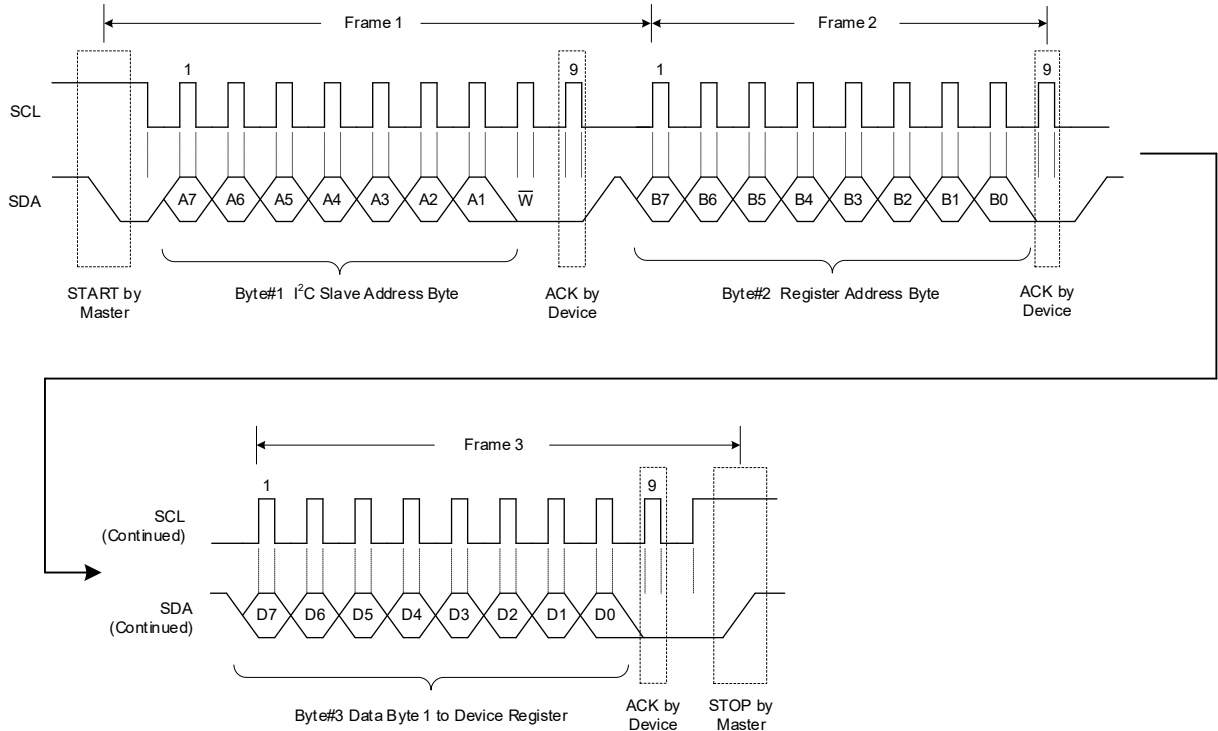
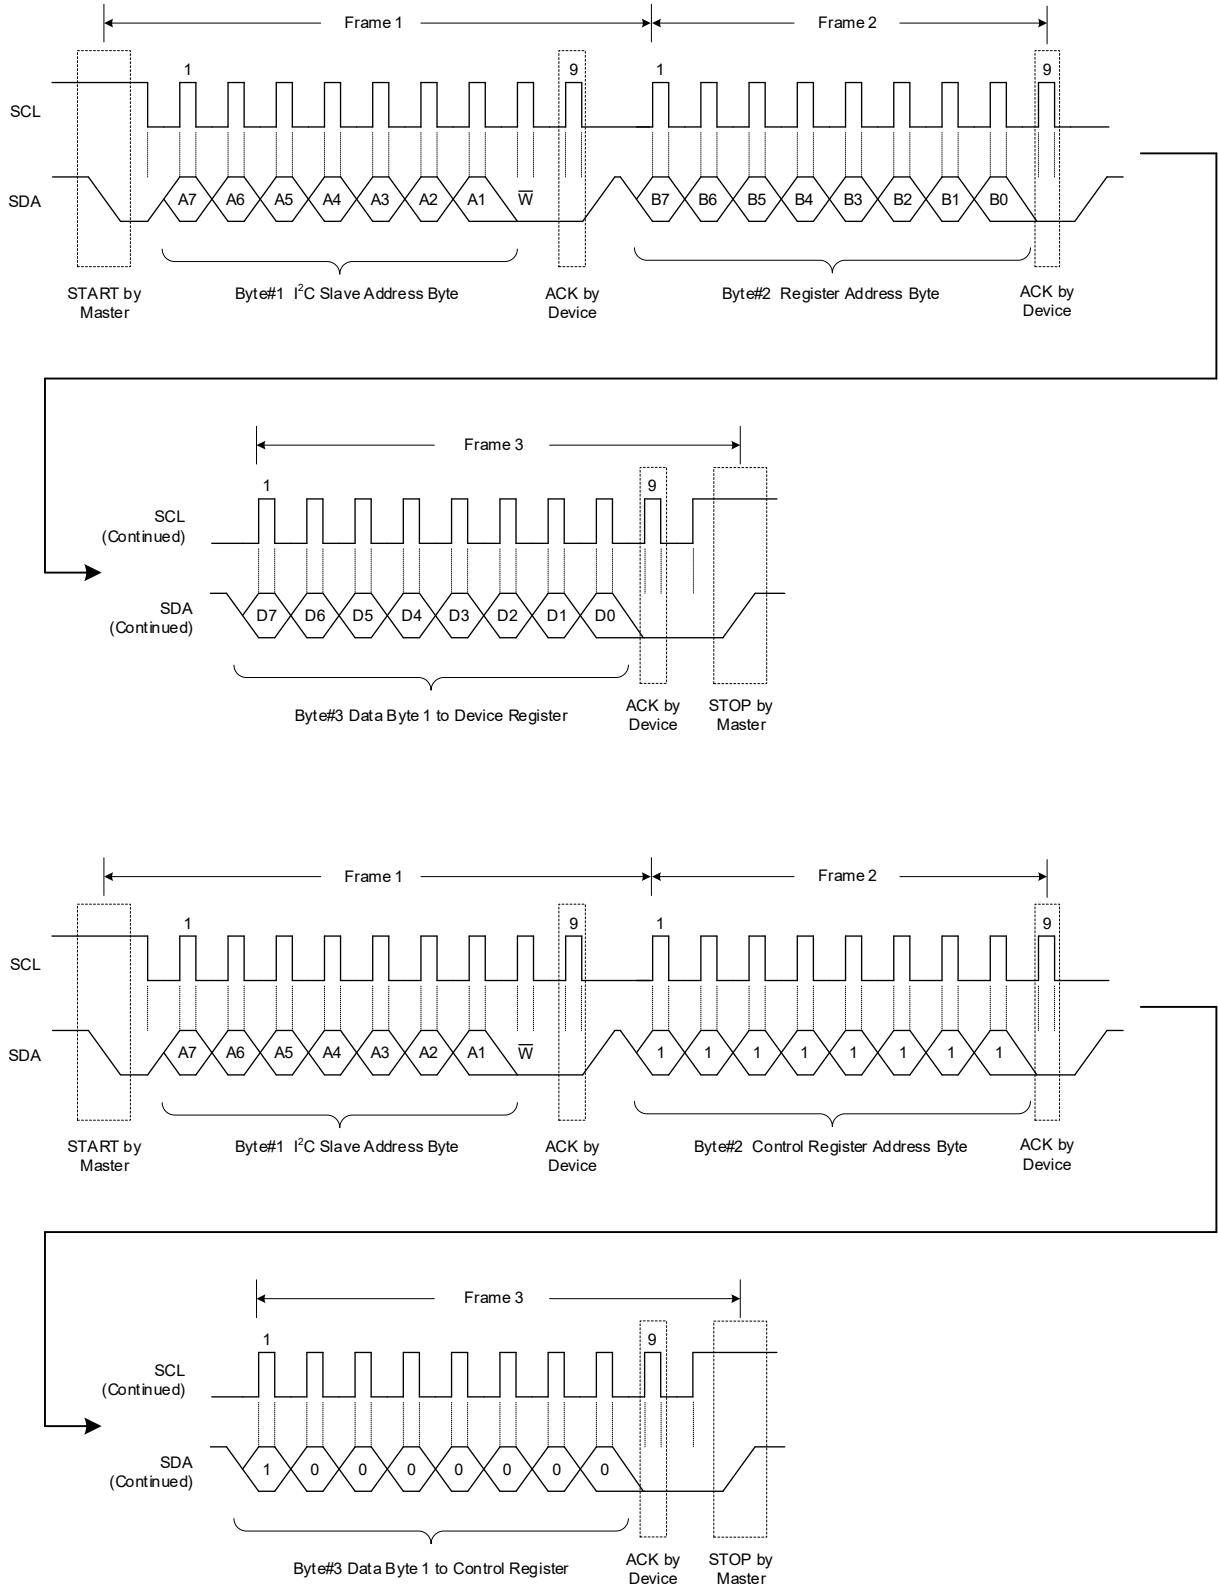

Figure 8. A Single Write Transaction (To DAC Register)
Figure 9. A Single Write Transaction (To MTP)
**WRITE:** If the master wants to write in the register, the third byte can be written directly as shown in Figure 8 and Figure 9 for a single write data transfer. After receiving the ACK, master may issue a STOP condition to end the transaction or send the next register data, which will be written to the next address in a slave as multi-write. A STOP is needed after sending the last data.